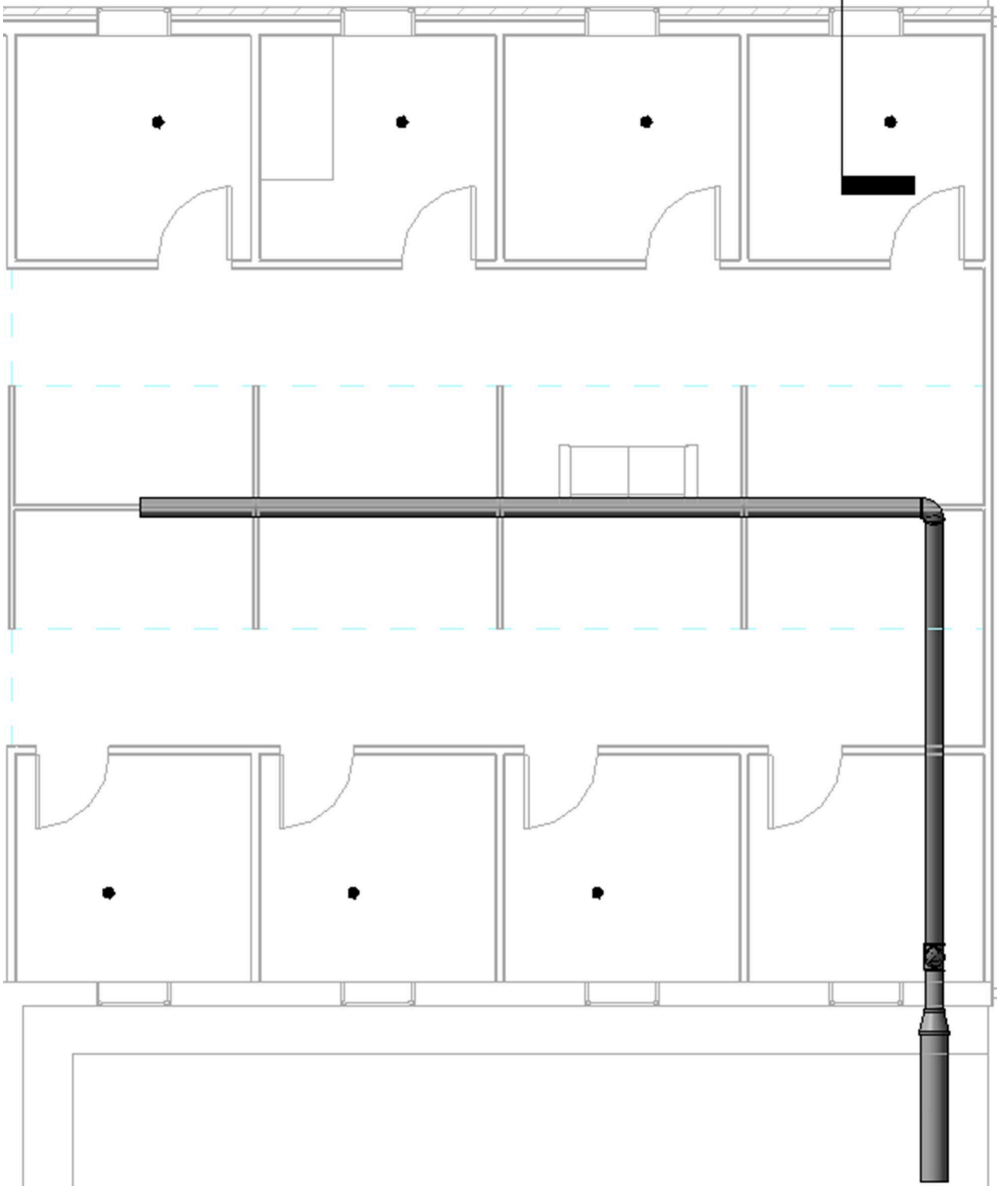

Figure 15.6 Initial main pipe drawn with 12" to 8" diameter
4. Draw a short length of pipe on the exterior of the 8th room as shown in Figure 15.6.
7. Draw the Pipe across and down the center of the room as shown in Figure 15.6